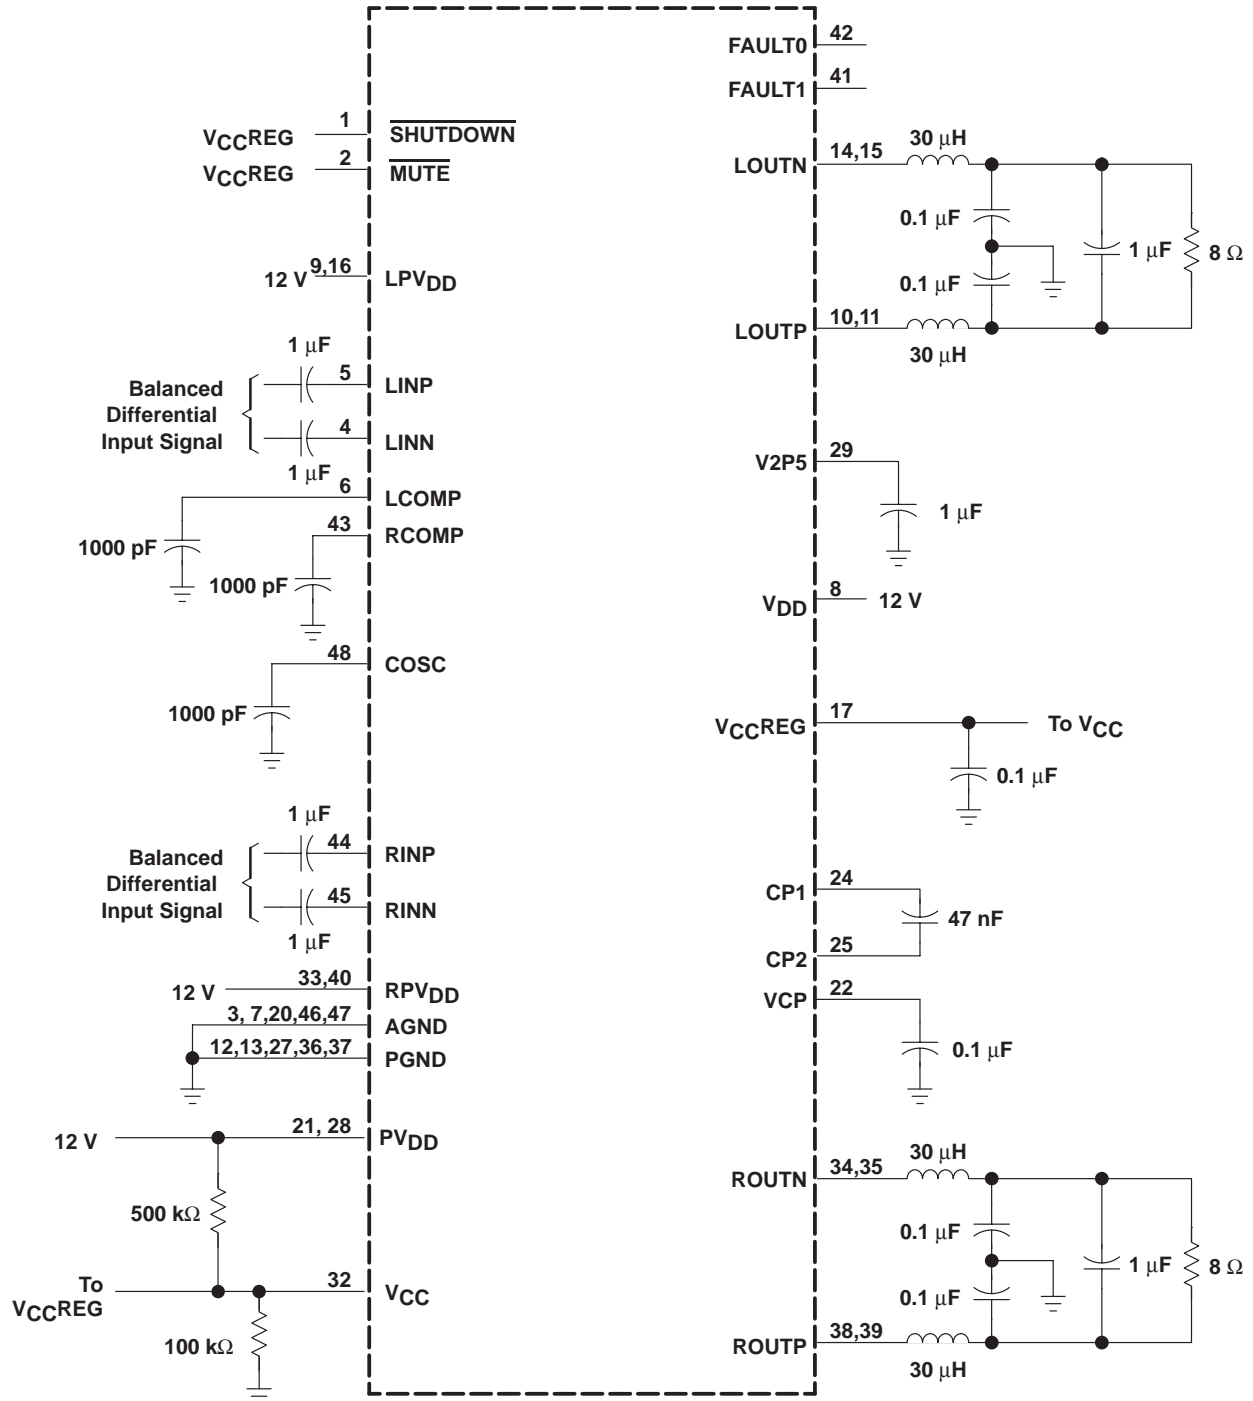

Figure 2. 12-V, 8-Ω Test Circuit
**operating characteristics, Class-D amplifier,  $V_{DD} = PV_{DD} = LPV_{DD} = RPV_{DD} = 12\text{ V}$ ,  $R_L = 8\ \Omega$ ,  $T_A = 25^\circ\text{C}$ , See Figure 2 (unless otherwise noted)**